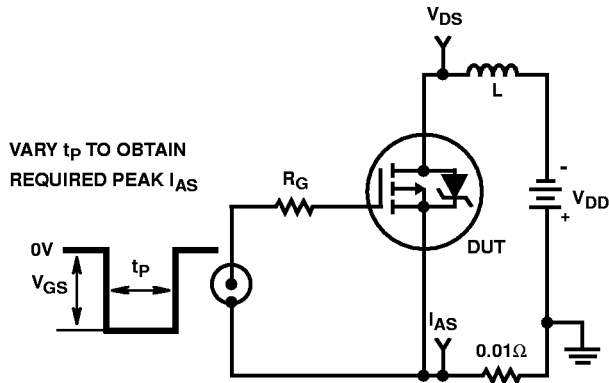

FIGURE 14. UNCLAMPED ENERGY TEST CIRCUIT
- $V_{DD} = 25\text{V}$ , starting  $T_J = 25^\circ\text{C}$ ,  $L = 582\text{mH}$ ,  $R_G = 25\Omega$ , peak  $I_{AS} = 0.7\text{A}$ . See Figures 14, 15.